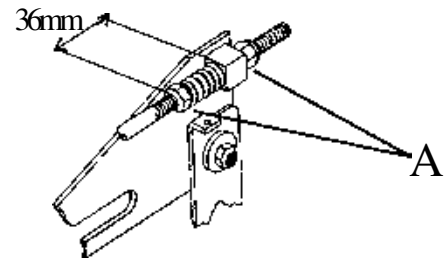

Figure 6.5 Cutterhead conbar
4. Adjust the tilt of the cutterhead as required, by adjusting the two nyloc nuts located on the cutterhead conbars, maintaining a constant spring compression of 36mm measured from the front of the swivel block to the front of the nyloc nut (A). Figure 6.5.